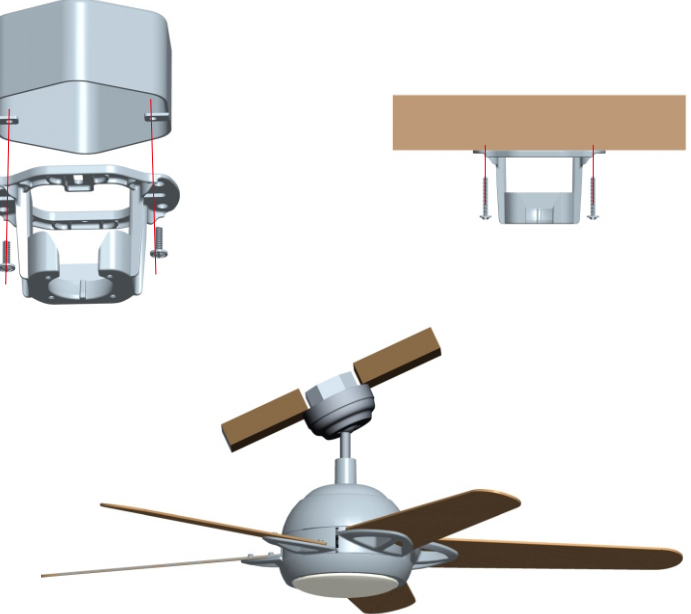

Fig 5.1
5. If you have an angled or vaulted ceiling: (Fig 5.1)